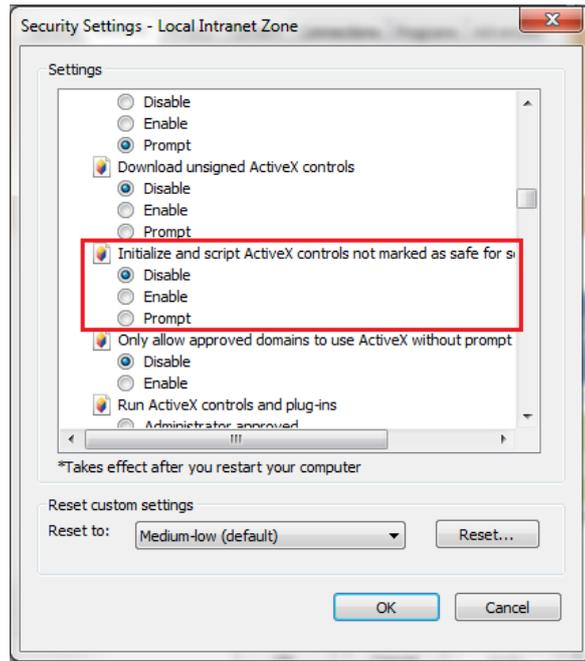

Figure 3-31 Enable ActiveX Controls
- 5) Set to enable the **Initialization and scripts ActiveX controls not marked as safe for script**, as shown in the Figure 3-31.